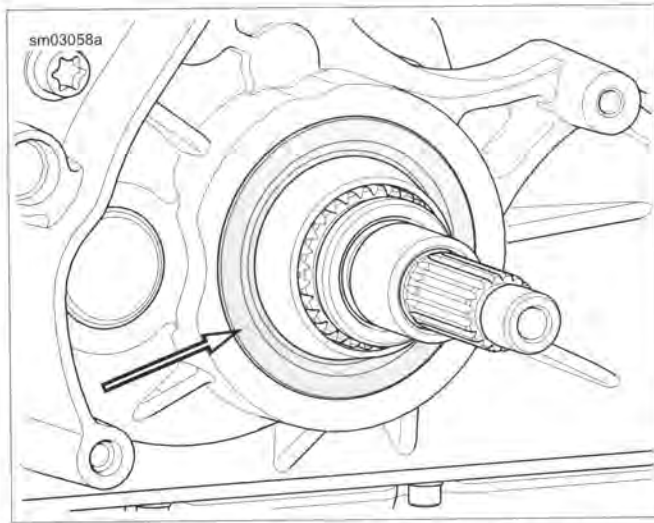

Figure 6-49. Place Main Drive Gear Seal Over Pilot
3. See Figure 6-49. Place seal over pilot with garter spring facing bearing. Position seal squarely in end of crankcase bore.